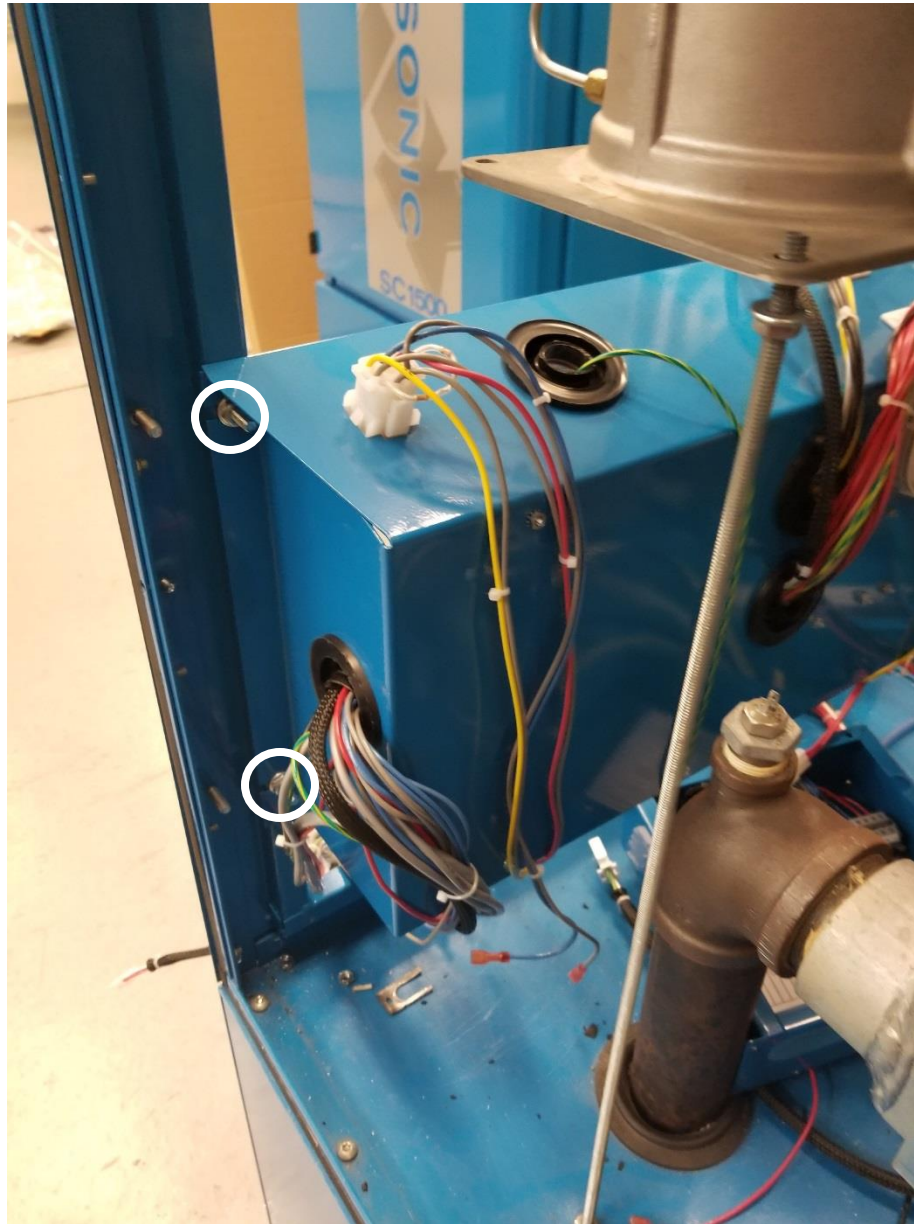

Figure 14
19. Slide control panel onto 4 studs and secure with 4 nuts shown in figure 14.